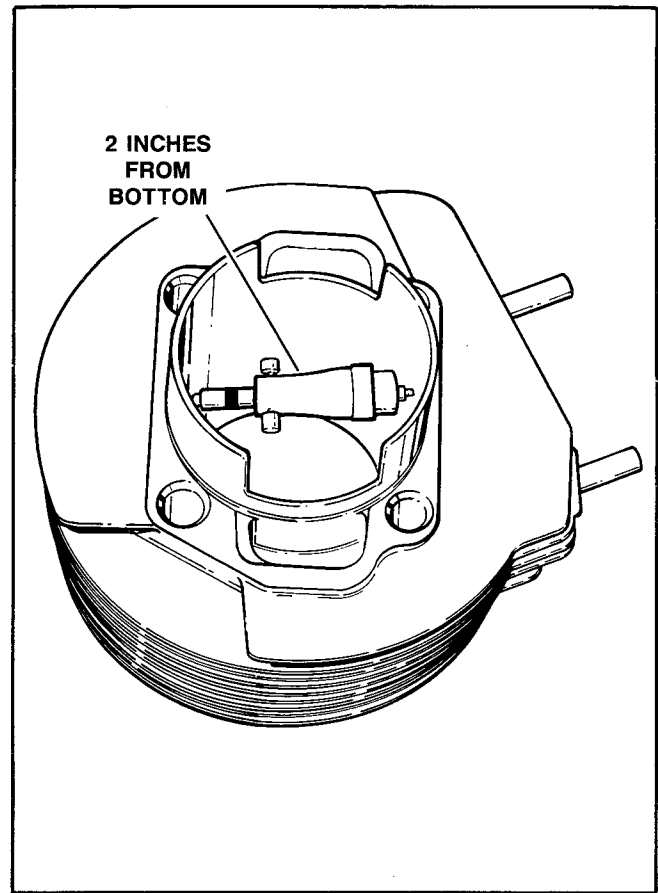

Figure 52 – Cylinder Bore Measurement
- c. See Figure 52. Take cylinder bore measurement 2 in. from bottom of bore, measuring from front to rear, then left to right. Record the measurements.